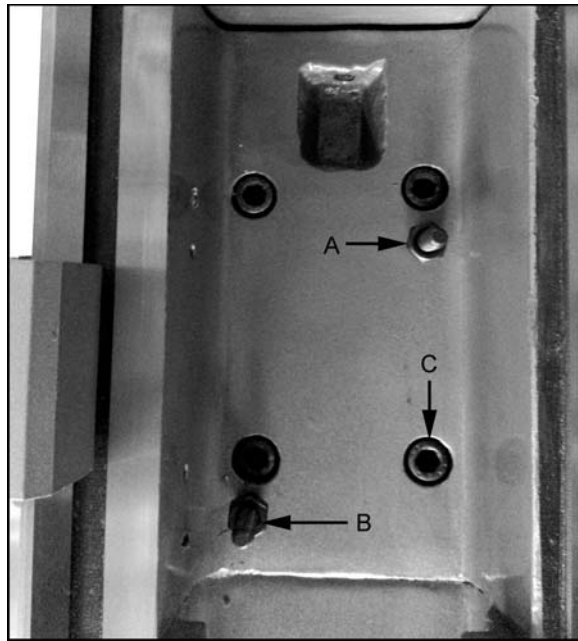

Figure 29
1. Using an open end wrench, tighten the two hex nuts (A, Fig. 29). This will cause the taper pins (B, Fig. 29) to release. Remove the taper pins.
2. Remove the four hex socket cap screws (C, Fig. 29) with a hex key wrench.
3. Remove nuts (A, Fig. 29) from the taper pins (B, Fig. 29).
5. Install four socket head cap screws (C, Fig. 29) and tighten securely.